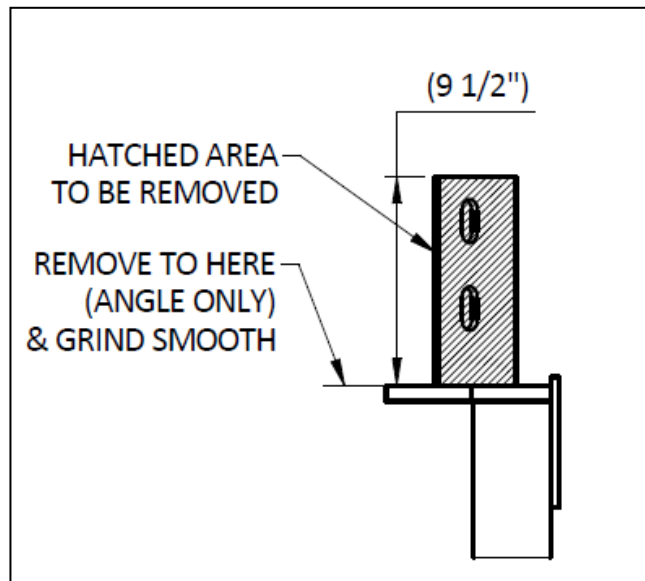

Figure 2.1a
5. For replacement of the C54 drive - remove the specified area on the existing cage, referring to Figure 2.1a and drawing RSW933-152.